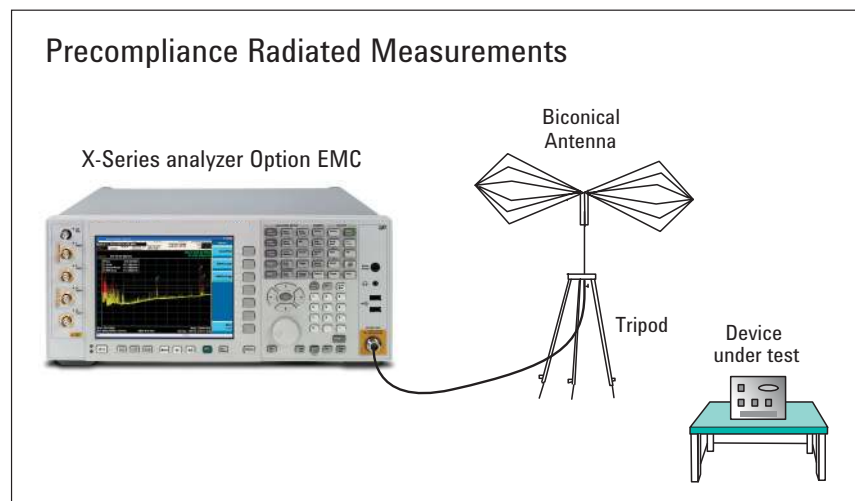

Figure 10. Radiated emissions test setup
1. Arrange the antenna, EUT and X-Series signal analyzer as shown in Figure 10. Separate the antenna and the EUT by 3 meters. (Use 10 meters if it is called out in the regulation. If space is limited correct the results for the difference in distance between 3 meter and 10 meters which is 10.45 dB.) It is important that the antenna not be placed within the near field region which is $\lambda/2\pi$ away from the EUT or closer. The X-Series has a 20 dB amplifier built-in. For increased gain, use the Keysight Technologies, Inc. 11909A amplifier with 32 dB gain and with 1.8 dB noise figure.